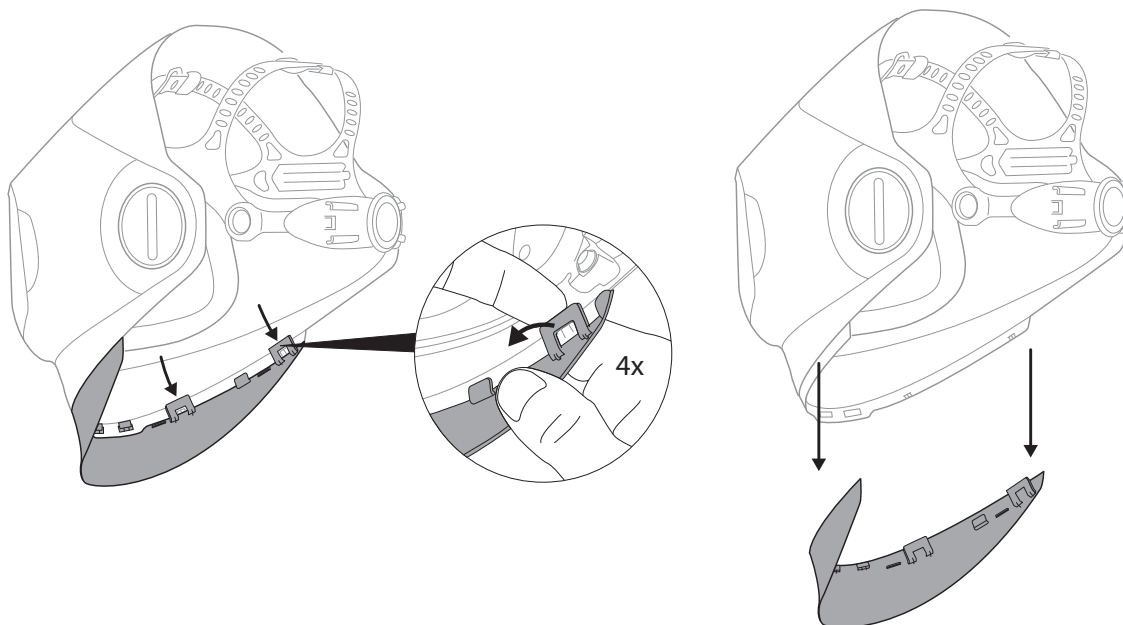
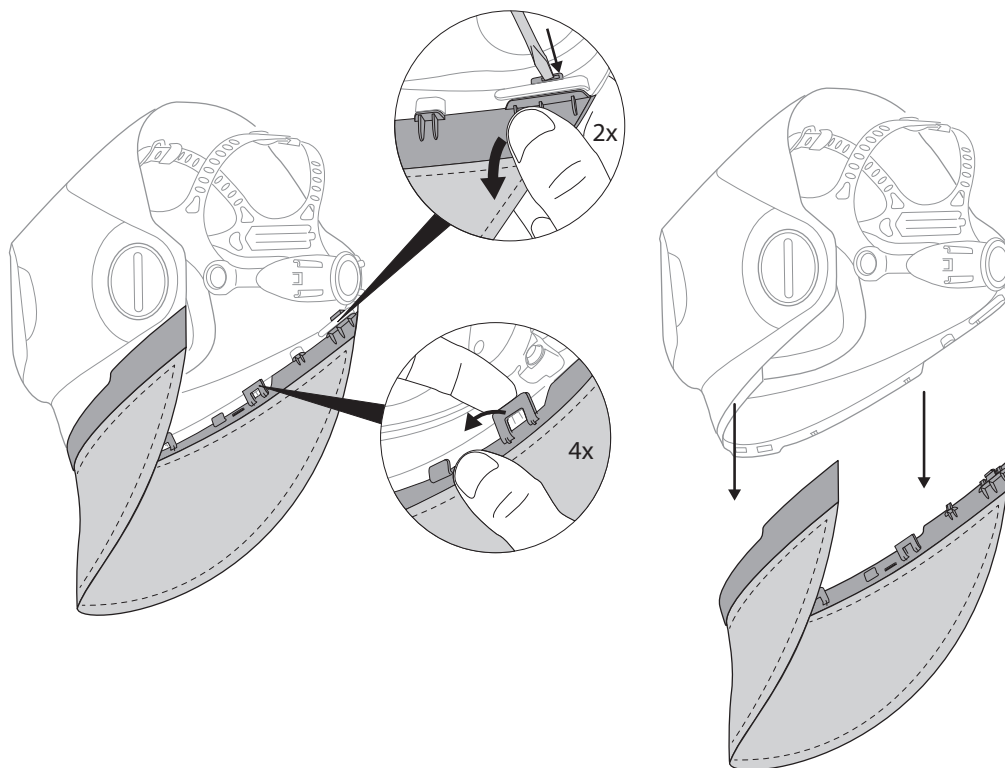

Fig. 30a
Fig. 30e
- When all clips have been disengaged, the neck cover piece may be pulled down off the welding helmet (Fig. 30a).
- e. To remove the fabric or leather neck cover a small tool (screwdriver or small pick) must be used to push the outer retaining clips away from the welding helmet (Fig. 30e). Then the 4 small clips can be removed as in Fig. 30a.